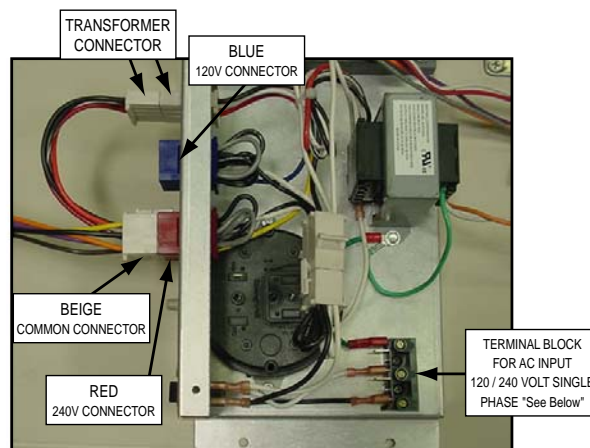

Figure 16.
- The MiniMax NT heater is prewired for 240-volt AC connection using the “RED” connector and the “BEIGE” common connector; see Figure 16 below. For 120-volt AC supply, remove the “BEIGE” common connector and plug it into the “BLUE” common connector.
You need to open the right door then remove the control panel cover for servicing the Line Terminal Block as shown in Figures 16 & 17, (see item 40 in the exploded view on page 33).